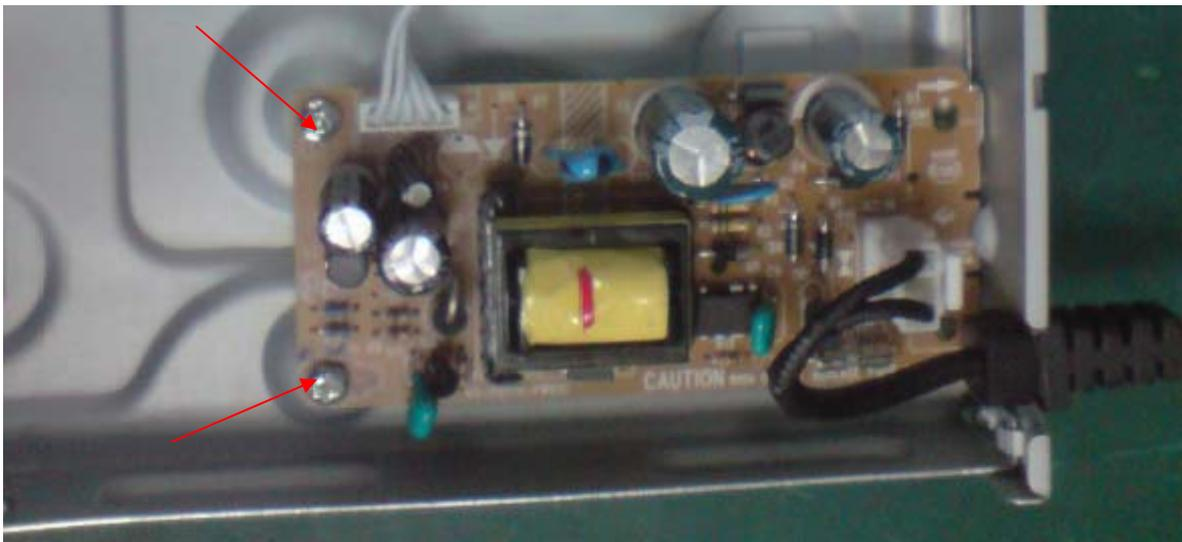

Figure 8
**Step7:** Remove the 2 screws on Power Board to dismantle the Power Board. (Figure 8)